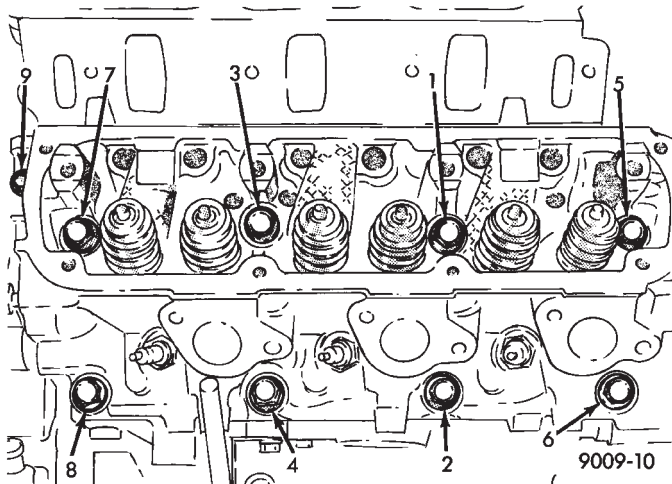
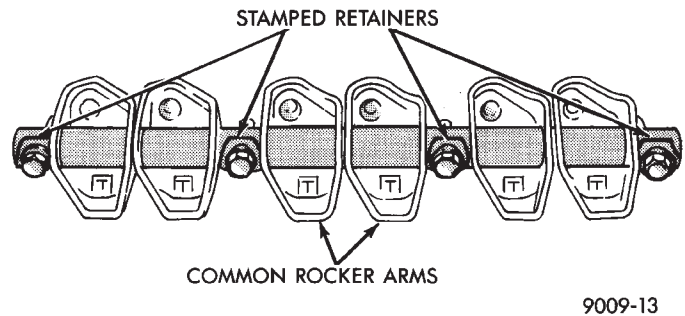

Fig. 11 Cylinder Head Tightening Sequence
Fig. 12 Rocker Arm Shaft Retainers
(3) Tighten the cylinder head bolts 1 thru 8 in the sequence shown in (Fig. 11). Using the 4 step torque turn method, tighten according to the following values:
(4) Bolt torque after 1/4 turn should be over 122 N•m(90 ft. lbs.). If not, replace the bolt.
(5) Tighten head bolt number 9 (Fig. 11) to 33 N•m (25 ft. lbs.) after head bolts 1 thru 8 have been tightened to specifications.
(6) Inspect push rods and replace worn or bent rods.
(7) Install push rods, rocker arm and shaft assemblies with the stamped steel retainers in the four positions, tighten to 28 N•m (250 in. lbs.) (Fig. 12).
(8) Place new cylinder head cover gaskets in position and install cylinder head covers. Tighten to 12 N•m (105 in. lbs.).